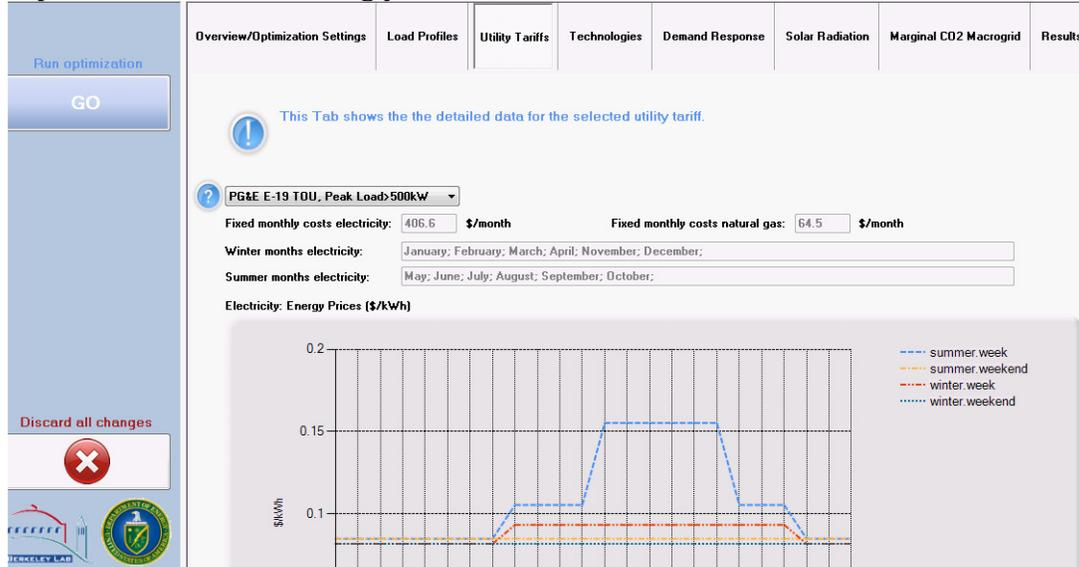

Figure 14. Utility Tariff (prices in USD, please convert accordingly)
The user can either (1) select one of the example tariffs listed in or (2) create one by selecting “User Defined” tariff. Figure 14 shows the layout of the tariff tab. Prices are in US Dollars; please convert accordingly.